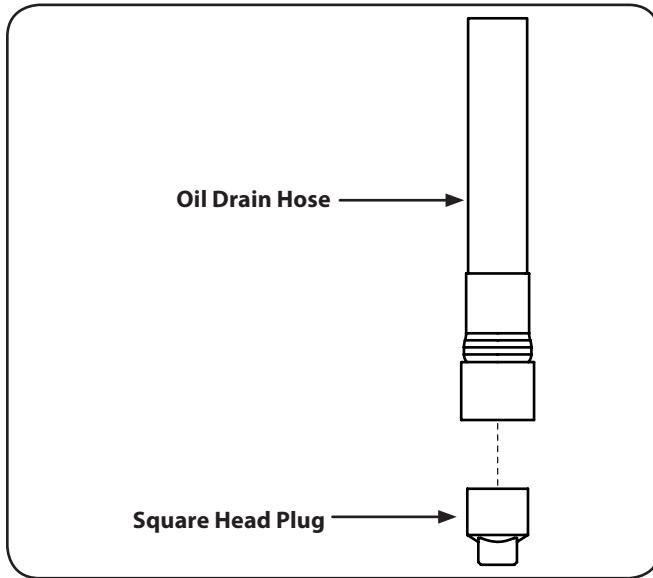

Figure 6-1
- While holding the free end of the oil drain hose over the oil collection container, unscrew the square head hose plug from the end of the hose. See Fig. 6-1. Drain the engine oil into the collection container.